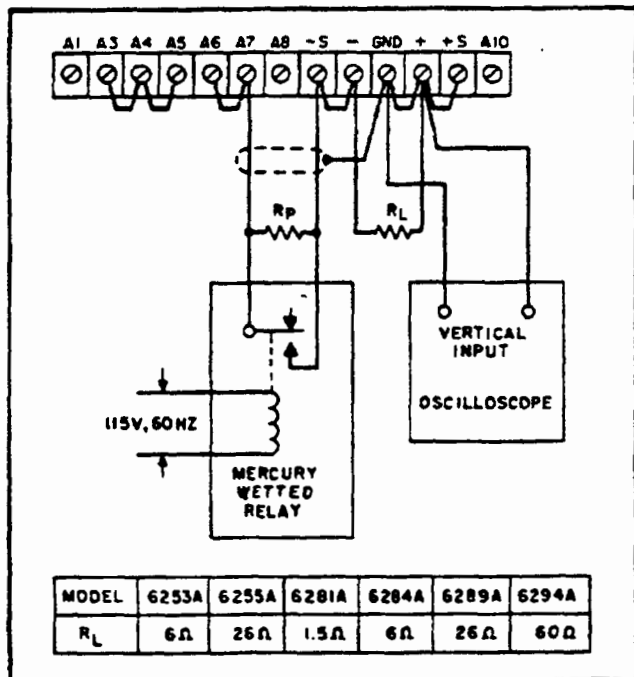

Figure 5-10. Constant Voltage Programming Speed, Test Setup
5-32 **Programming Speed.** This measurement is made by monitoring the output voltage with an oscilloscope while rapidly changing the remote programming resistance. For up-programming, the remote resistance is varied from zero ohms to the value that will produce maximum output voltage; and for down-programming, the remote resistance is varied from the value that will produce maximum output voltage to zero ohms. To check the up-programming speed, make the connections indicated in Figure 5-10; for down-programming, simply remove RL.
1. Restrap the rear barrier strip as indicated in Figure 5-10. Note that the jumper between +S and A10 is removed. This disconnects the output capacitor C20 to increase the programming speed. A minimum amount of output capacitance (C19) is permanently wired to the output and should not be removed, because the supply could oscillate under certain load conditions. The programming speed increases by a factor of from 10 to 100 when the output capacitor C20 is removed.
2. Connect the relay, oscilloscope, and programming resistor  $R_p$  as illustrated in Figure 5-10. Select the value of the programming resistor that will produce maximum output voltage of the supply. This value is obtained by multiplying the programming coefficient (200 ohms/volt, 300 ohms/volt for Model 6294A) by the maximum rated output voltage of the supply.
4. The time (T) required for the output voltage to change from zero volts to maximum rated output or from maximum rated output to zero should be less than 10 milliseconds.